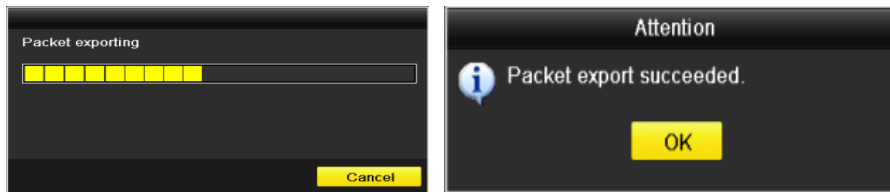

Figure 11-27 Packet Export Attention
Step 5 After the exporting is complete, click **OK** to finish the packet export, as shown in Figure 11-27.